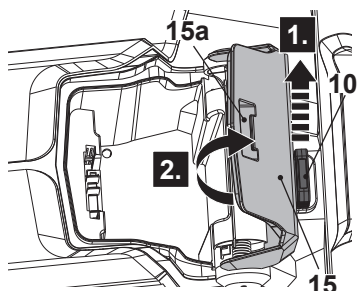

Fig. 8
1. Remove the safety key (10) and keep it avoid loss (Fig. 8, step 1).
2. Hold the groove (15a) and open the battery cover (15) (Fig. 8, step 2).